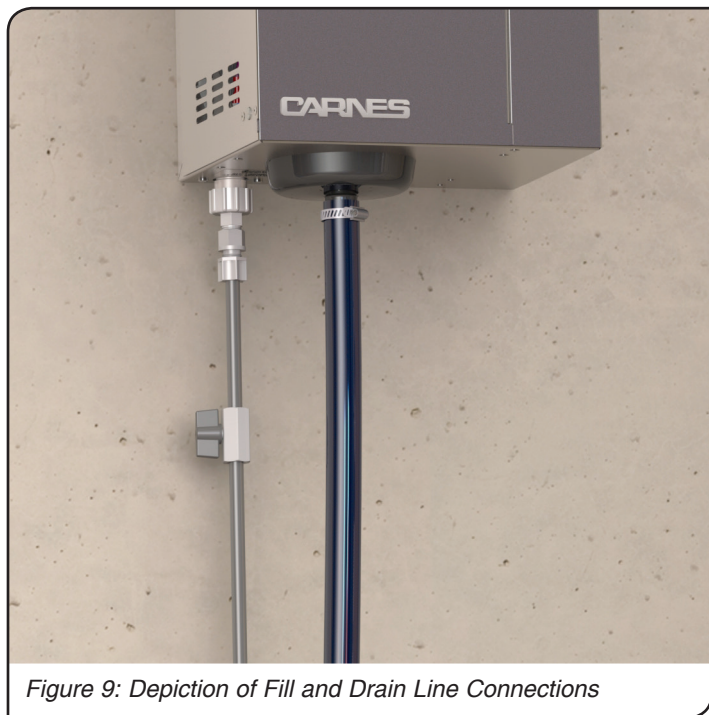

Figure 9: Depiction of Fill and Drain Line Connections
1. Securely connect a 1" I.D. hose (not included) to the port of the humidifier drain cup located at the bottom of the unit as shown in Figure 9.